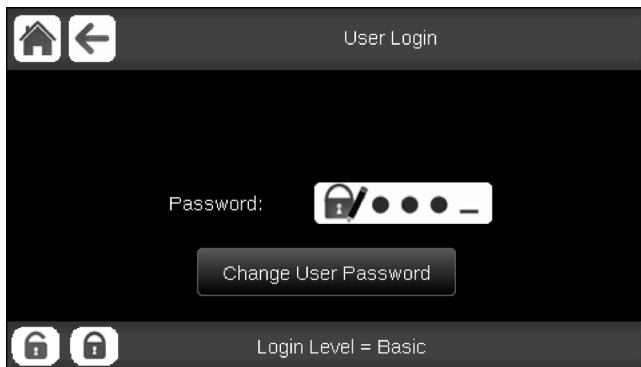

Fig. 4 — User Login Screen
- **User** — The User access level authorizes access to modify the Setpoint Configuration and some Configuration Menu parameters, as well as access to all menus accessible with the Basic mode. See menu structure on page 14. The default password for User level access is 11. To change the User access password, the user must first be logged in to User or higher level and go to **Login Menu** → **User Login** → **Change User Password**, then enter the old password and the new password. Confirm the new password, then press the Save button. After pressing the Save button, a pop-up window will indicate that the user password was changed successfully. Press OK to continue. (See Fig. 4.)